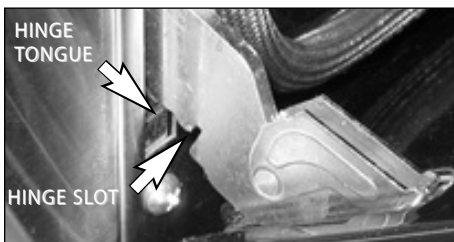

Fig. 08
2. Simply place the hinge tongue into the hinge slots (See Fig. 08).